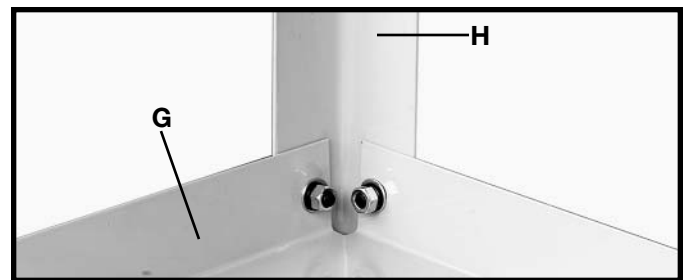

Fig. 8
7. Assemble bottom shelf (G) Fig. 8 to the four legs (H) (one of which is shown). Align the eight holes in the legs with the eight holes in the shelf. Insert a 5/16-18x5/8" carriage head bolt through the hole in the leg and the hole in the shelf. Place a 5/16" flat washer onto the carriage head bolt, place a 5/16" lock washer onto the carriage head bolt, thread a 5/16-18 hex nut onto the carriage head bolt and tighten securely. Repeat this process for the seven remaining holes.